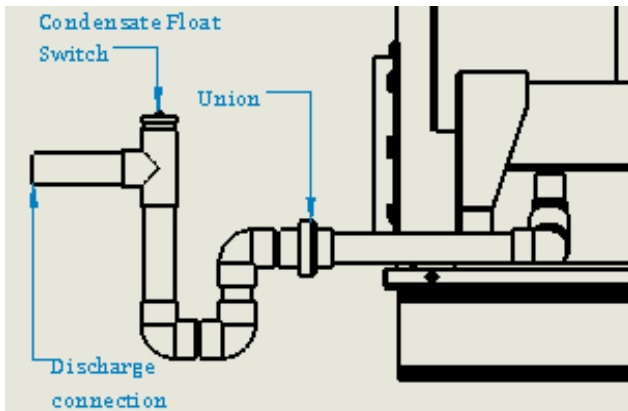

Figure 12: Condensate Trap Assembly
2. Install the condensate trap on the rear of the appliance in the lower left-hand corner as shown in Figure 12.